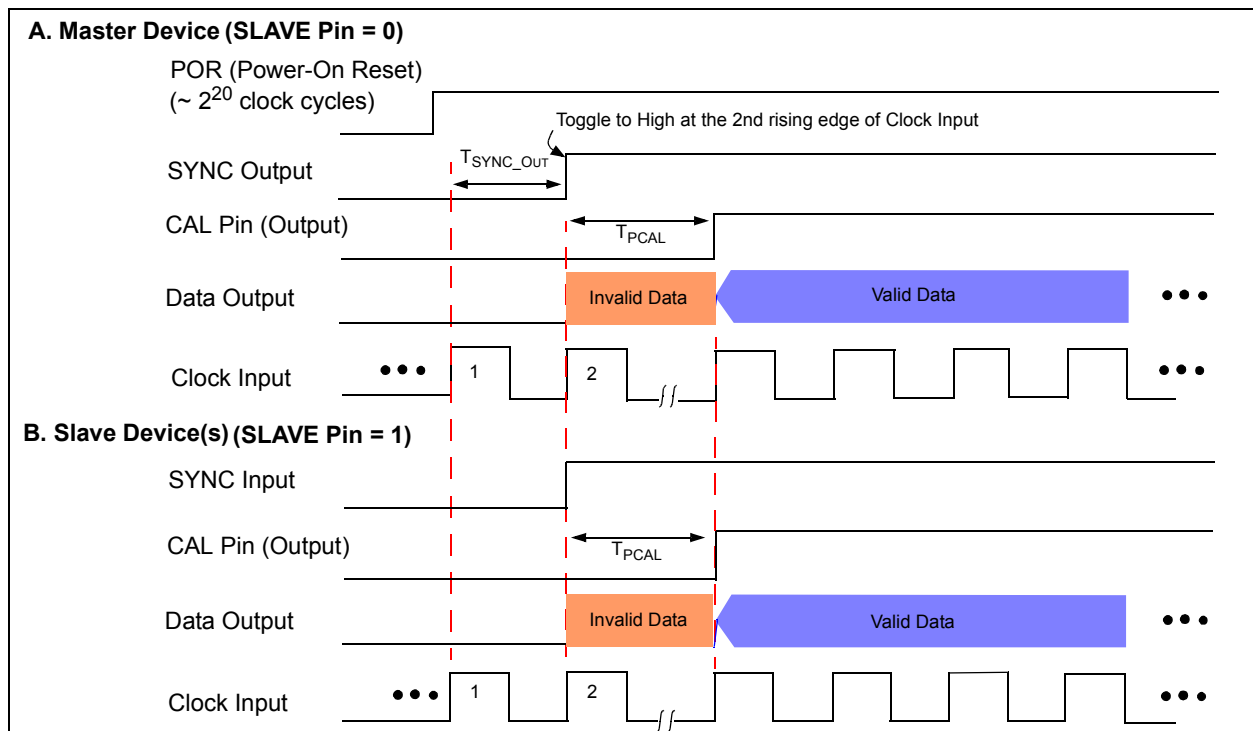
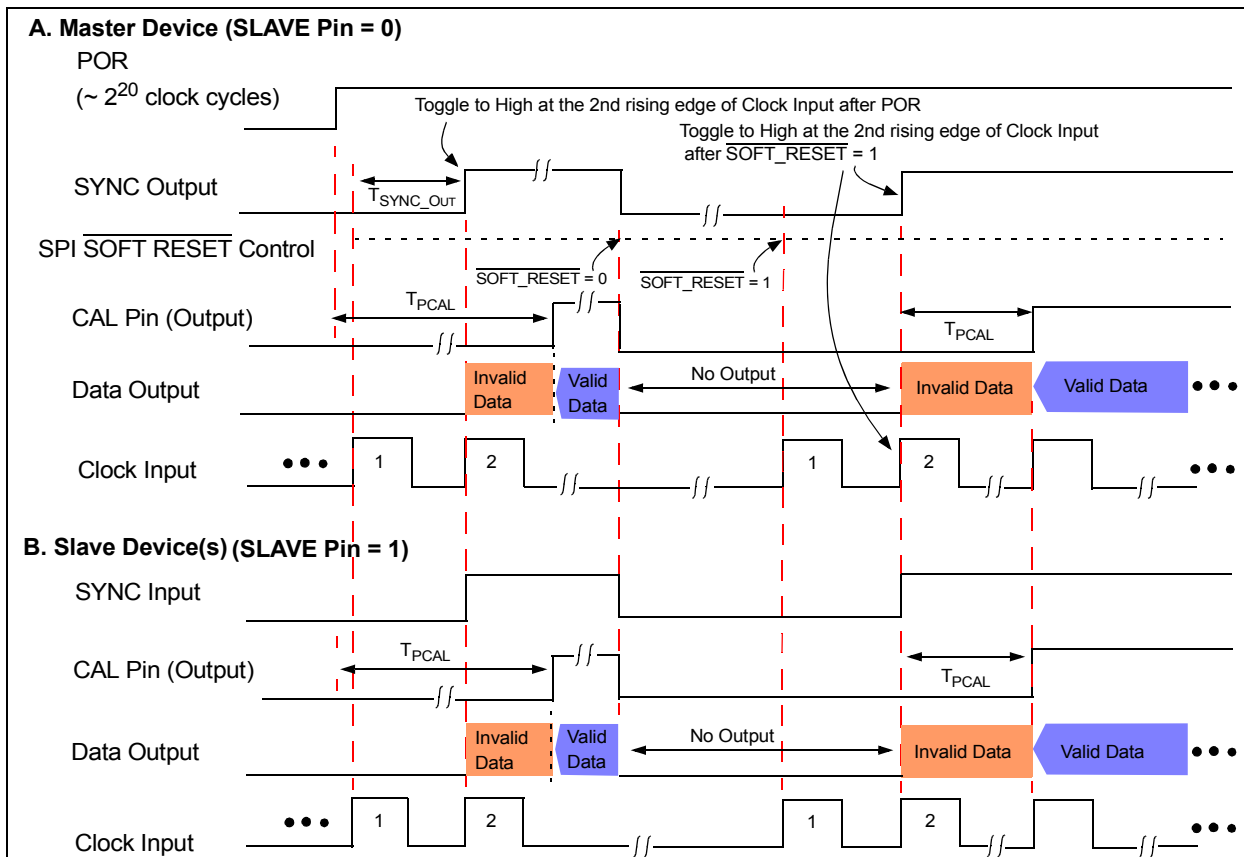

FIGURE 2-7: Figure 2-5 Sync Timing Diagram with Power-On Reset.
FIGURE 2-9: Sync Timing Diagram with SOFT_RESET Bit Setting.
- Note 6:** Characterized with a single slave device. The maximum ADC sample rate for AutoSync mode may be reduced if multiple slave devices are used. See Figure 2-7 - Figure 2-9, and Figure 4-28 for details.